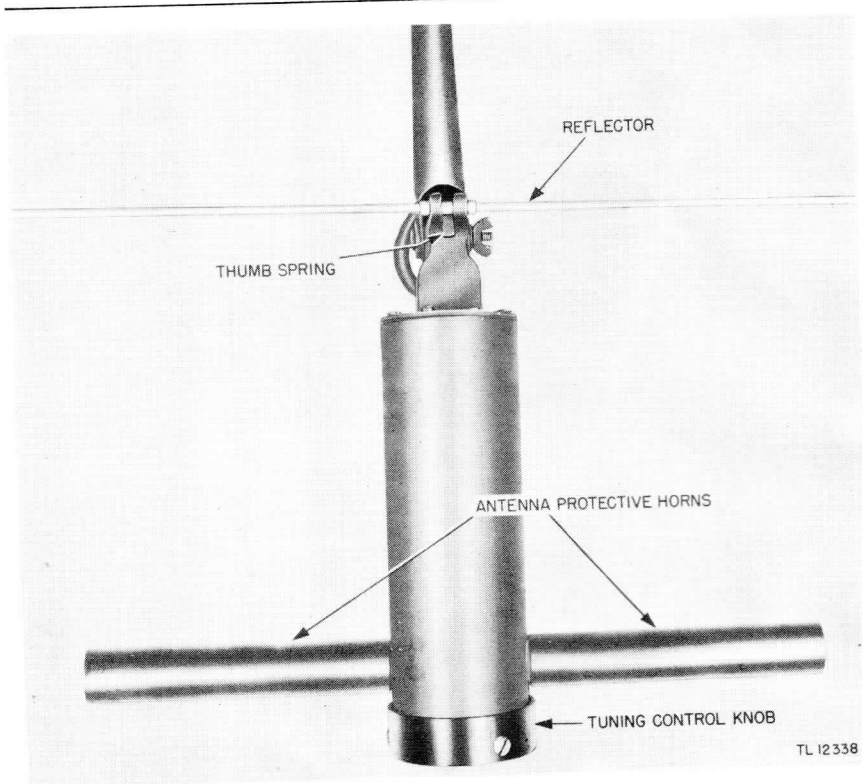
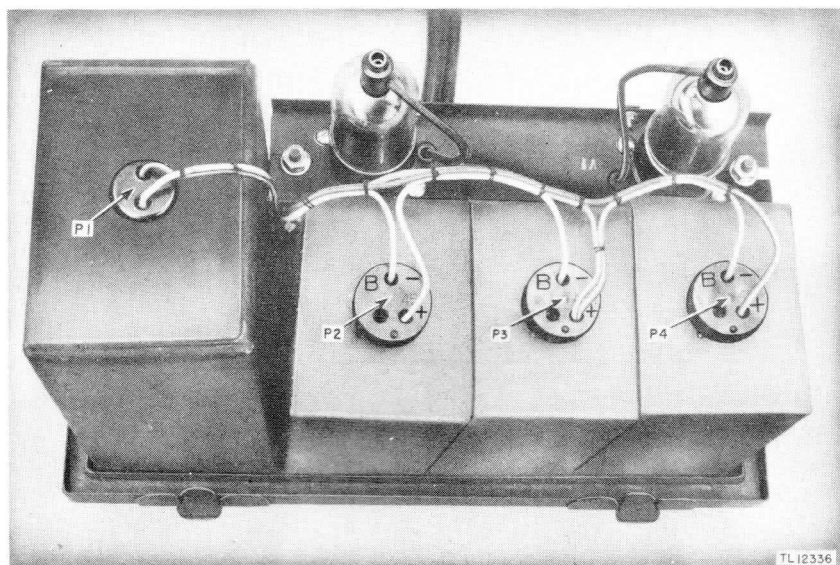

Figure 3. Detector Set AN/PRS-1, external view of detector head.
Figure 6. Amplifier Assembly AM-32/PRS-1, battery installation, battery hold-down strap removed.
housing, and the lower section of the exploring rod to which they are attached. Swivel joints on the lower section of the exploring rod permit the adjustment of the angles which the detector head and the meter housing make with the exploring rod. The antenna and reflector are removable. The detector set is tuned by means of a tuning control at the bottom of the detector head (fig.3). The detector head assembly is connected to the amplifier assembly by Cord CX-123/PRS-1 which is equipped with a 5-connector male plug.
*c.* Install the reflector rod by depressing the thumb spring (fig. 3) at the top of the detector head and inserting the rod through the hole in the reflector holder. When the groove in the reflector rod collar is in line with the slot in the reflector holder, release the thumb spring.
*e.* When the detector set is to be used in wet grass or brush, slip an antenna protective horn (fig. 3) over each antenna rod.
- (1) Unsnap the four Dot fasteners on the cover of the bag.
- (2) Remove the amplifier from the bag and place it on a level surface. Do not damage the cables and controls on the bottom of the amplifier base.
- (3) Release the four drawbolts and lift the cover from the amplifier base.
- (4) Install three B Batteries BA-63 and one A Battery BA-203/U in the battery compartment. Connect the battery cable plugs (fig. 6) to the three B batteries and the A battery.
b. The adjustment of the tuning control knob on the bottom of the detector head assembly (fig. 3) is **critical**. Make this adjustment as follows:
(1) Turn the tuning control knob to the right (**clockwise as viewed from above the detector head**) until a stopping point is reached. **DO NOT FORCE THE TUNING CONTROL KNOB.**
(2) Back off the tuning control knob to the left (counterclockwise) seven turns.